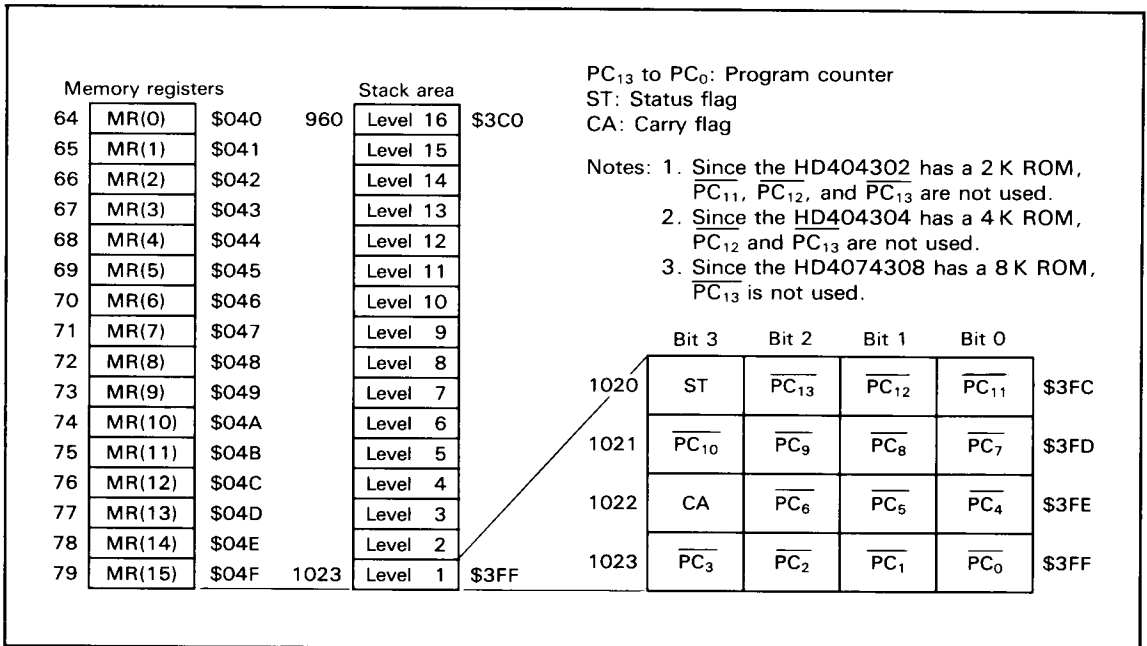

Figure 4 Configuration of Memory Registers, Stack Area, and Stack Position
Data Area (\$040 to \$09F): The 16 digits of \$040 through \$04F are called memory registers (MR) and are accessible by the LAMR and XMRA instructions (figure 4).
Stack Area (\$3C0 to \$3FF): Locations \$3C0 through \$3FF are reserved for the stack area to save the contents of the program counter (PC), status flag (ST), and carry flag (CA) when subroutine calls (CAL and CALL instructions) and interrupts are processed. This area can be used as a 16-level nesting stack in which one level requires 4 digits. Figure 4 shows the save condition. The program counter is restored by the RTN and RTNI instructions. The status and carry flags are restored only by the RTNI instruction. This area, when not used as a stack, is available as a data area.